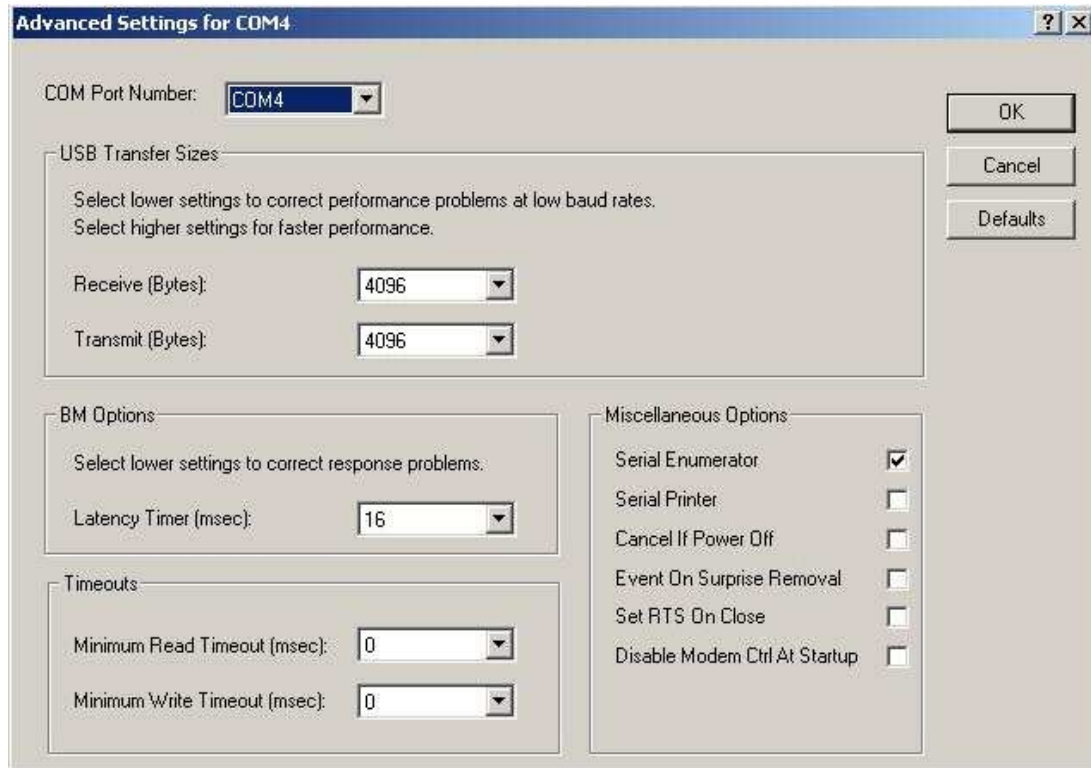

Figure 26: Serial Port Properties, Advanced
5. Find and click on the `Advanced` button to obtain the `Advanced Serial Port Properties` screen of figure 26.
6. In figure 26, the COM Port selection is highlighted. Click on the arrow to show a selection of COM ports. Use the up and down arrow to scroll through all the COM ports. If you wish to force the hardware to use a different COM port, you may select that port number here.